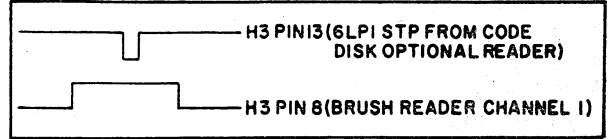

FIGURE 7-4. FORMAT READER AND CODE DISK SYNCHRONIZATION.
Tests (Figure 7-4/7-5)
Adjustments (Figure 7-4/7-5)
FORMAT READER AND CODE DISK SYNCHRONIZATION (FIGURE 7-4/7-5)
2. With an oscilloscope monitor chip H3 pin 8 (brush reader format channel 1) and chip H3 pin 13 (6 LPI STP from the code disk optical reader). Now ground pin 13 of test plug TJ1 or pin 1 of chip R2 to logic ground to cause a constant paper slew. Chip H3, test plug TJ1 and chip R2 are located on the Controller And Head Logic Board (card location 1PC2). Trigger the oscilloscope on the positive edge of format channel 1 signal. If the format reader and the code disk are synchronized properly, the 6 LPI STP signal should be centered within the brush reader channel 1 signal as shown in Figure 7-4.
3. Repeat steps 1 and 2 until the 6 LPI STP signal is centered within the brush reader channel 1 signal as shown in Figure 7-4.